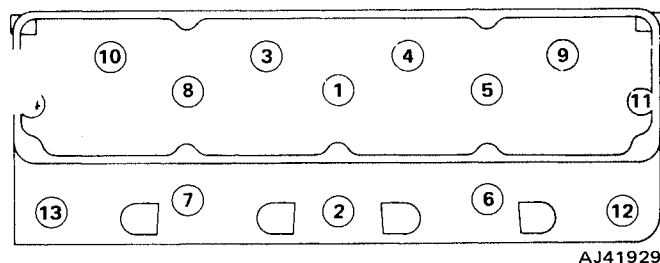

Fig. 1B-82 Cylinder Head Torque Sequence
(4) Tighten cylinder head capscrews evenly to 80 foot-pounds torque following sequence outlined in figure 1B-82. Then follow sequence again and tighten screws to 110 foot-pounds torque.
(5) Left side: connect air pump mount bracket to cylinder head and power steering pump, if removed.